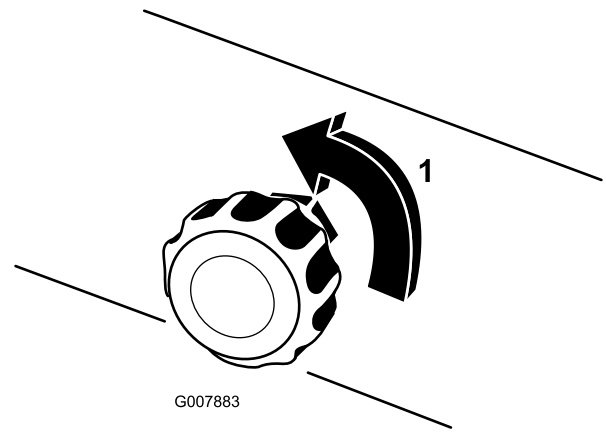

Figure 19
5. For the initial operation, open the foam density adjustment valve 1/8 to 1/4 turn counterclockwise (Figure 19).